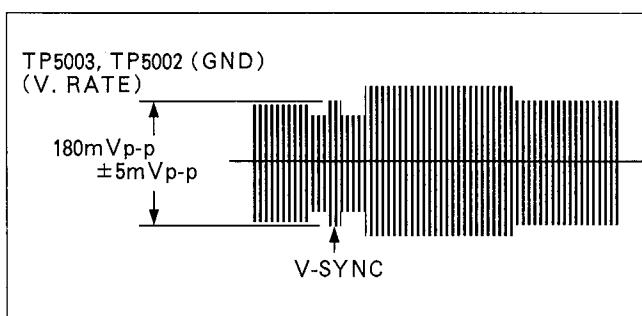

Figure E9
2. Adjust VR3305 so that the sync tip level becomes 180mVp-p ± 5mVp-p as shown in Figure E9.